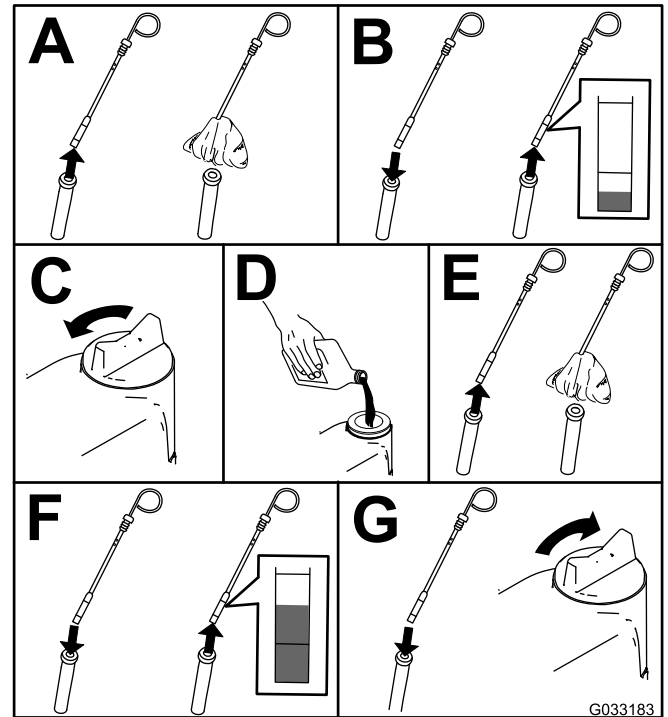

Figure 52
2. Remove the dipstick, wipe it clean, install the dipstick into the tube, and pull it out again. The oil level should be between the full and add marks (Figure 52).